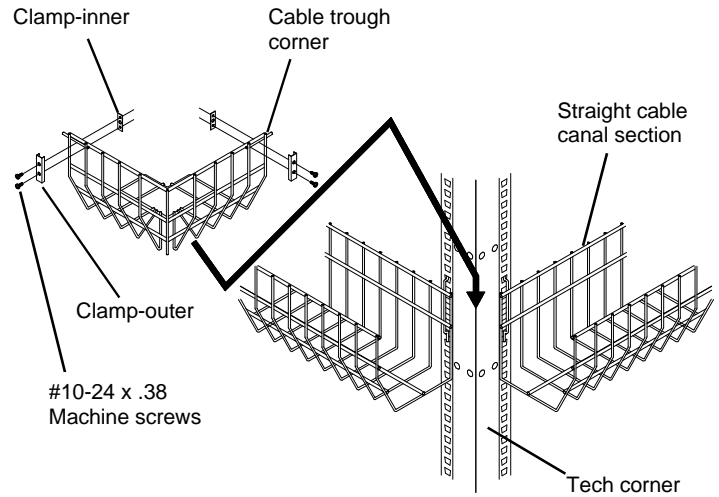

Figure 3
1. To install the Cable Trough Corner, the Cable Trough sections must first be installed, without the Cross Ties, at the same height. From the top, place the corner section inside the straight sections. Gently pull back on the outside of the straight sections and push the Trough Corner into place. Release the straight sections. Secure using the two clamps and screws. See **Figure 3**.